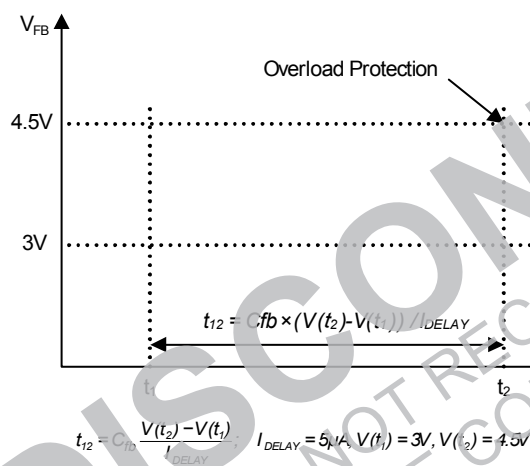

Figure 18. Overload Protection (OLP)
4.1 Overload Protection (OLP): Overload is defined as the load current exceeding a pre-set level due to an unexpected event. In this situation, the protection circuit should be activated to protect the SMPS. However, even when the SMPS is operating normally, the overload protection (OLP) circuit can be activated during the load transition. To avoid this undesired operation, the OLP circuit is designed to be activated after a specified time to determine whether it is a transient situation or a true overload situation. If the output consumes more than the maximum power determined by I_{LIM} , the output voltage (V_O) decreases below its rating voltage. This reduces the current through the opto-coupler LED, which also reduces the opto-coupler transistor current, thus increasing the feedback voltage (V_{FB}). If V_{FB} exceeds 3V, the feedback input diode is blocked and the $5\mu A$ current source (I_{DELAY}) starts to charge C_{FB} slowly up to V_{CC} . In this condition, V_{FB} increases until it reaches 4.5V, when the switching operation is terminated, as shown in Figure 18. The shutdown delay time is the time required to charge C_{FB} from 3V to 4.5V with a $5\mu A$ current source.